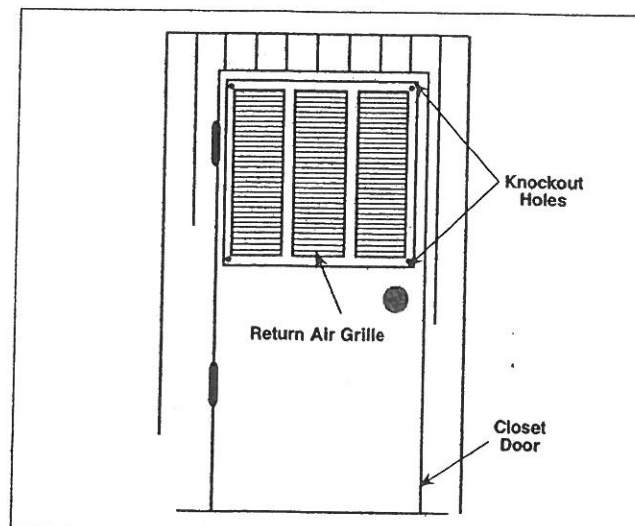

Figure 12. Typical Closet Installation
1. For closet installations, the return air grille mounting frame is not used since the furnace is located inside the closet. See Figure 12.
3. Cut the opening in the closet door as shown in Figure 12. Knock out four holes in the return air grille and insert four wood screws, securing the grille to the door.